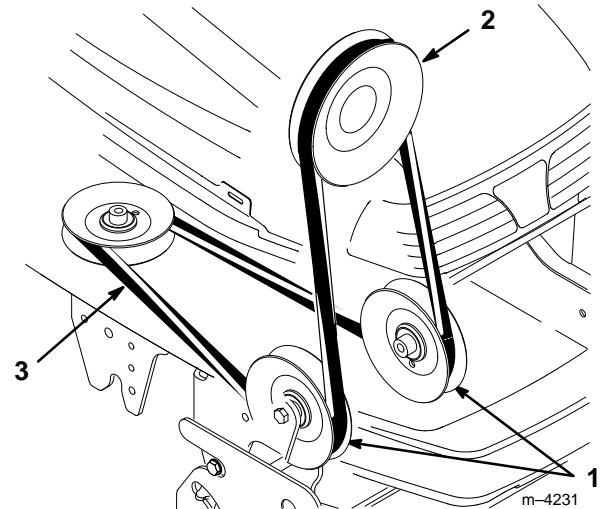

Figure 11
5. Position the end of the belt into the grooves of the PTO pulley (Fig. 11), making sure it is also under the pulleys in the pulley box.